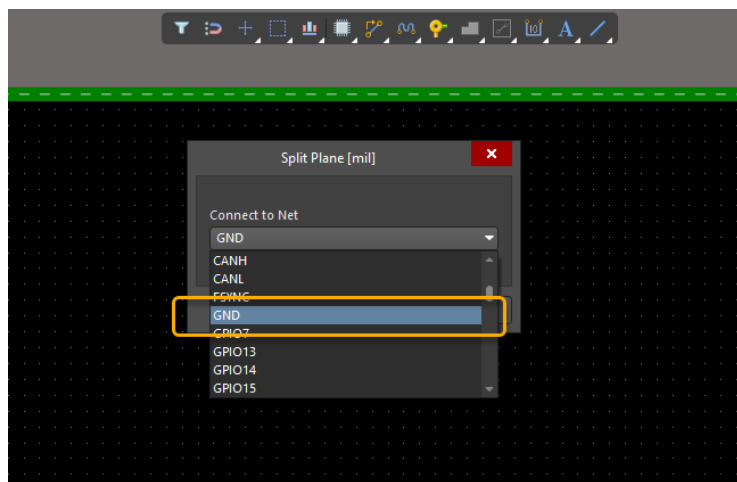

Figure 1. Changing the Power Plane net to GND
10. Double-click in the board area to open the *Split Plane* dialogue that appears in Figure 1. Assign the net **GND** to the Power Plane and click **OK**.